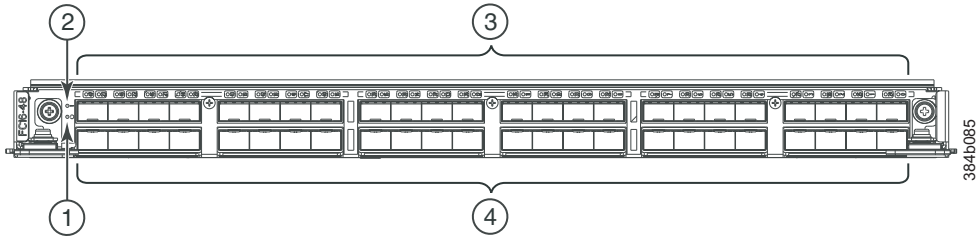

Figure 55. FC16-48 port blade
- Figure 55 on page 152 shows an FC16-48 port blade